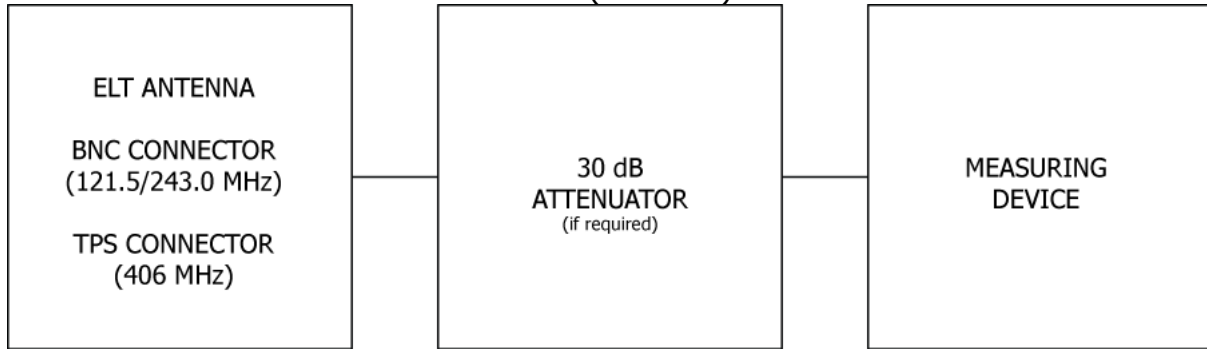

Figure 7 Performance Testing Equipment Setup
- 3) Ensure that adequate attenuation rated for 406 MHz is installed between the ELT antenna output and the measurement equipment to prevent damaging input circuitry, if required. At a minimum, the attenuator should be rated at 30 dB, and 5 watts for a ½-second duration as shown in Figure 7 Performance Testing Equipment Setup on page 30.